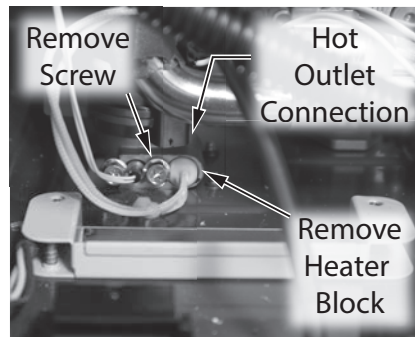

Figure 31 - Remove hot outlet connection heater block
- 14 Locate the screw securing the heater block inside the hot outlet connection as shown in Figure 31. Use a 12" Phillips screwdriver (magnetized) to remove screw. Place screw aside in a safe place for reinstallation. Remove heater block from hot outlet connection.